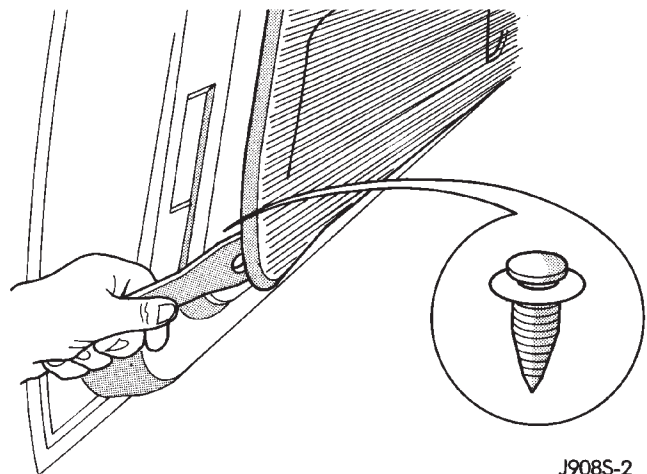

Fig. 4 Trim Panel Remove
- (6) Pull the armrest straight out from the trim panel.
- (7) Remove the trim panel with a wide flat-bladed tool (Fig. 4). To aid in removal of the trim panel, start at the bottom of the panel.